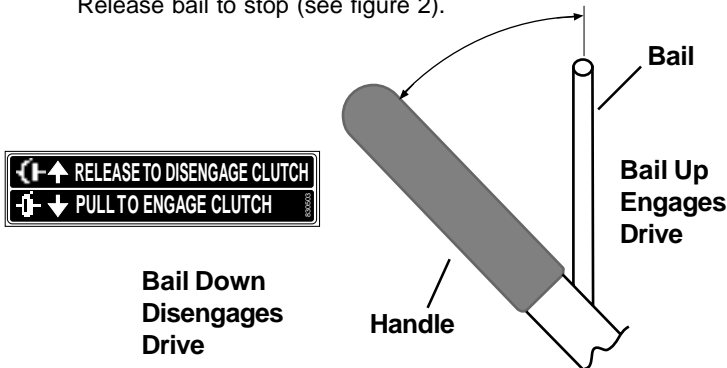

Fig. 1
**PROPULSION:** BG self-propelled vacuums are equipped with 1 forward gear, neutral and reverse. With the engine running, the bail in released position and brake in on position, select desired drive gear. Lift bail against handle to engage drive (see figure 1 & 2). Smoothly engage the bail. Use good judgement when operating the self-propelled drive.